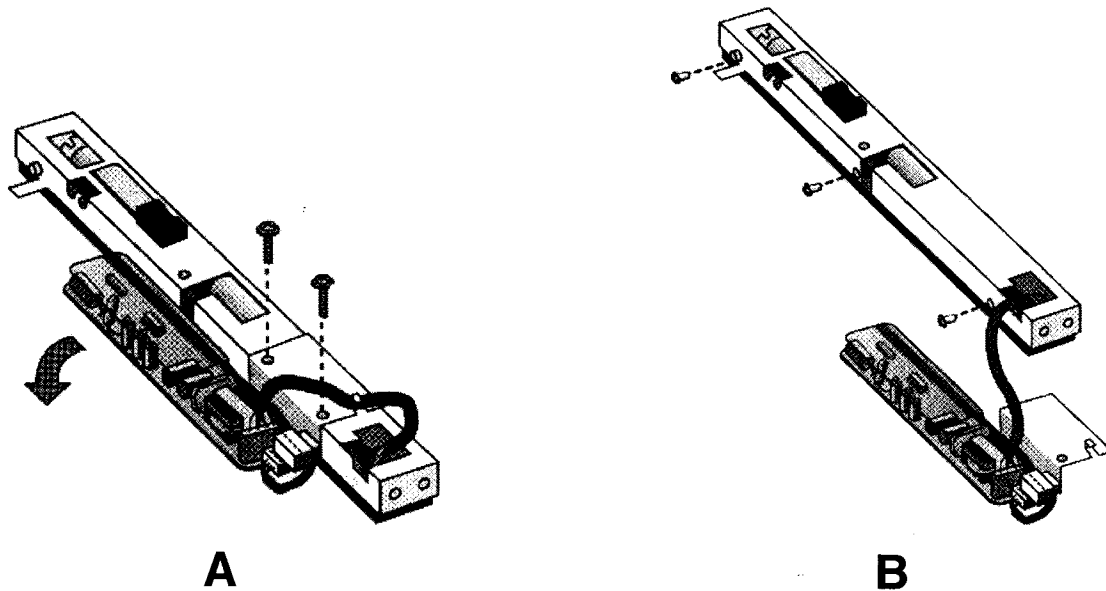

Fig. 5.7
14. Remove the lamp cover and lift the lamp from the sockets (Figure 5.7).